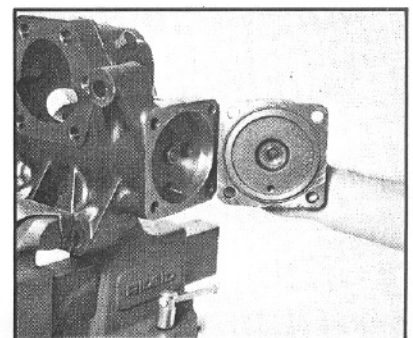

Figure 112
14. If your gear has the removable end cover (37), position it so that the poppet adjusting screw (40) is aligned with the end of the poppet (34) (FIG. 112). Push the end cover in until it contacts the gear housing.